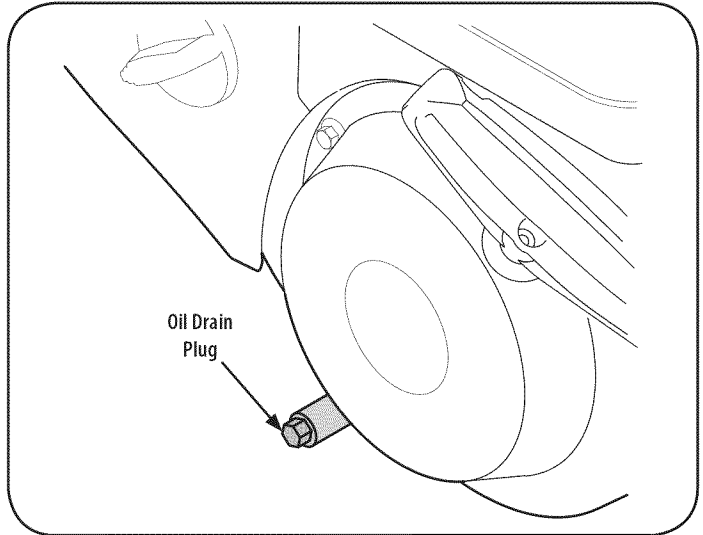

Figure 16
3. Remove oil drain plug. See Figure 16.